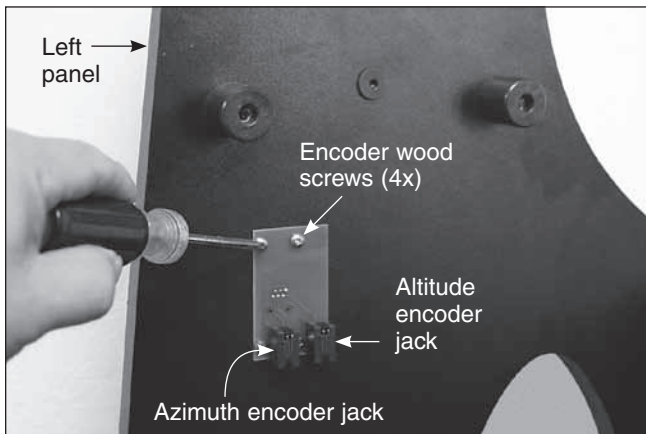

Figure 10. Attach the encoder connector board to the left panel with four of the encoder board mounting screws.
board and into the pre-drilled pilot holes in the left panel until tight (Figure 10).
19. Connect one end of the azimuth encoder cable (the shorter of the two flat cables in the IntelliScope kit) to the encoder jack in the top baseplate of the Dobsonian base. Connect the other end to the encoder connector board installed on the base's left side panel. The azimuth encoder cable should plug into the jack on the left side of the encoder connector board (Figure 10).
20. Connect one end of the altitude encoder cable (the longer of the two flat cables in the IntelliScope kit) to the modular jack on the altitude encoder assembly. Connect the other end of the altitude encoder cable to the jack on the right side of the encoder connector board (Figure 10).